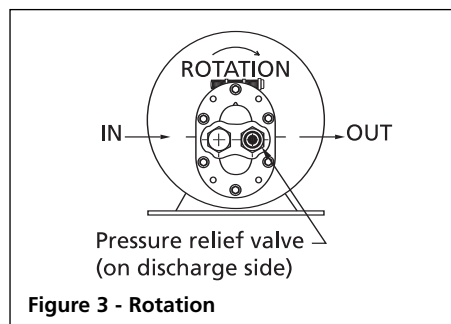

Figure 3 - Rotation
Rotation: When looking at the motor shaft end, proper motor pump rotation is clockwise (CW). Flow is left to right (See Figure 3). Reverse the flow by rotating the pump 180°. Standard models are equipped with pressure relief valves. It is important that the relief valve be on the discharge side of the pump. **NOTE:** Pump can be rotated 360°.
4. Recheck motor rotation. Proper motor/pump rotation is clockwise (CW) looking at the motor shaft (See Figure 3).
5. On all models, the pressure relief valve is always on discharge side (See Figure 3).